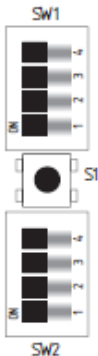

Fig. 3
Time setting (see Fig. 3 and 4)
- The DIP switches are located underneath the front cover of the safety-monitoring module (see Fig. 3 and 4).